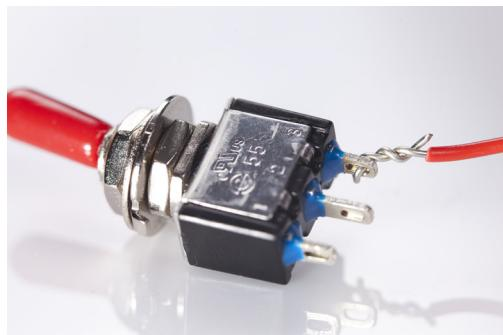

Figure 2-2. Tying a wire to the switch leads
5. Connect the red positive wire from the battery holder to either side lead of the switch using the following technique (see Figure 2-2):